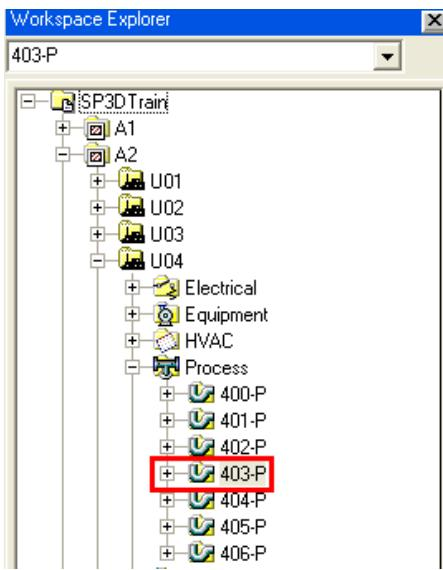

Figure 12. 62: Selected 403-P in the WorkSpace Explorer
4. Select the pipeline **403-P** from the **Workspace Explorer**, as shown in Figure 12. 62.